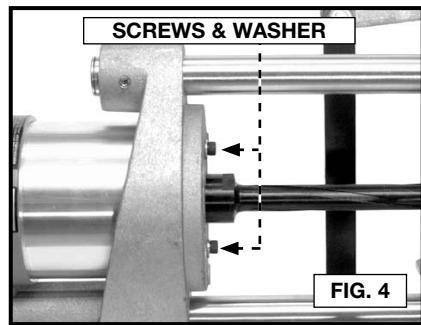

FIG. 4
3. Insert the two screw and washer assemblies (from Step 1) through the motor carriage (Fig. 4). Thread them into the holes in the motor housing. Tighten securely with the hex wrench.